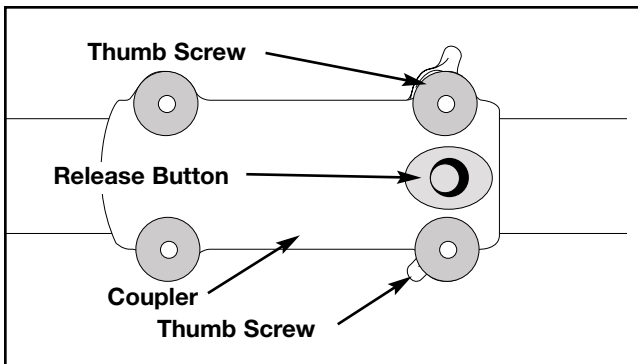

Fig. 11
1. Loosen the wing screws (Fig. 11).
2. Push the release button (Fig. 11).
3. Locate and lock the release button into the hole in coupler (Fig. 11).